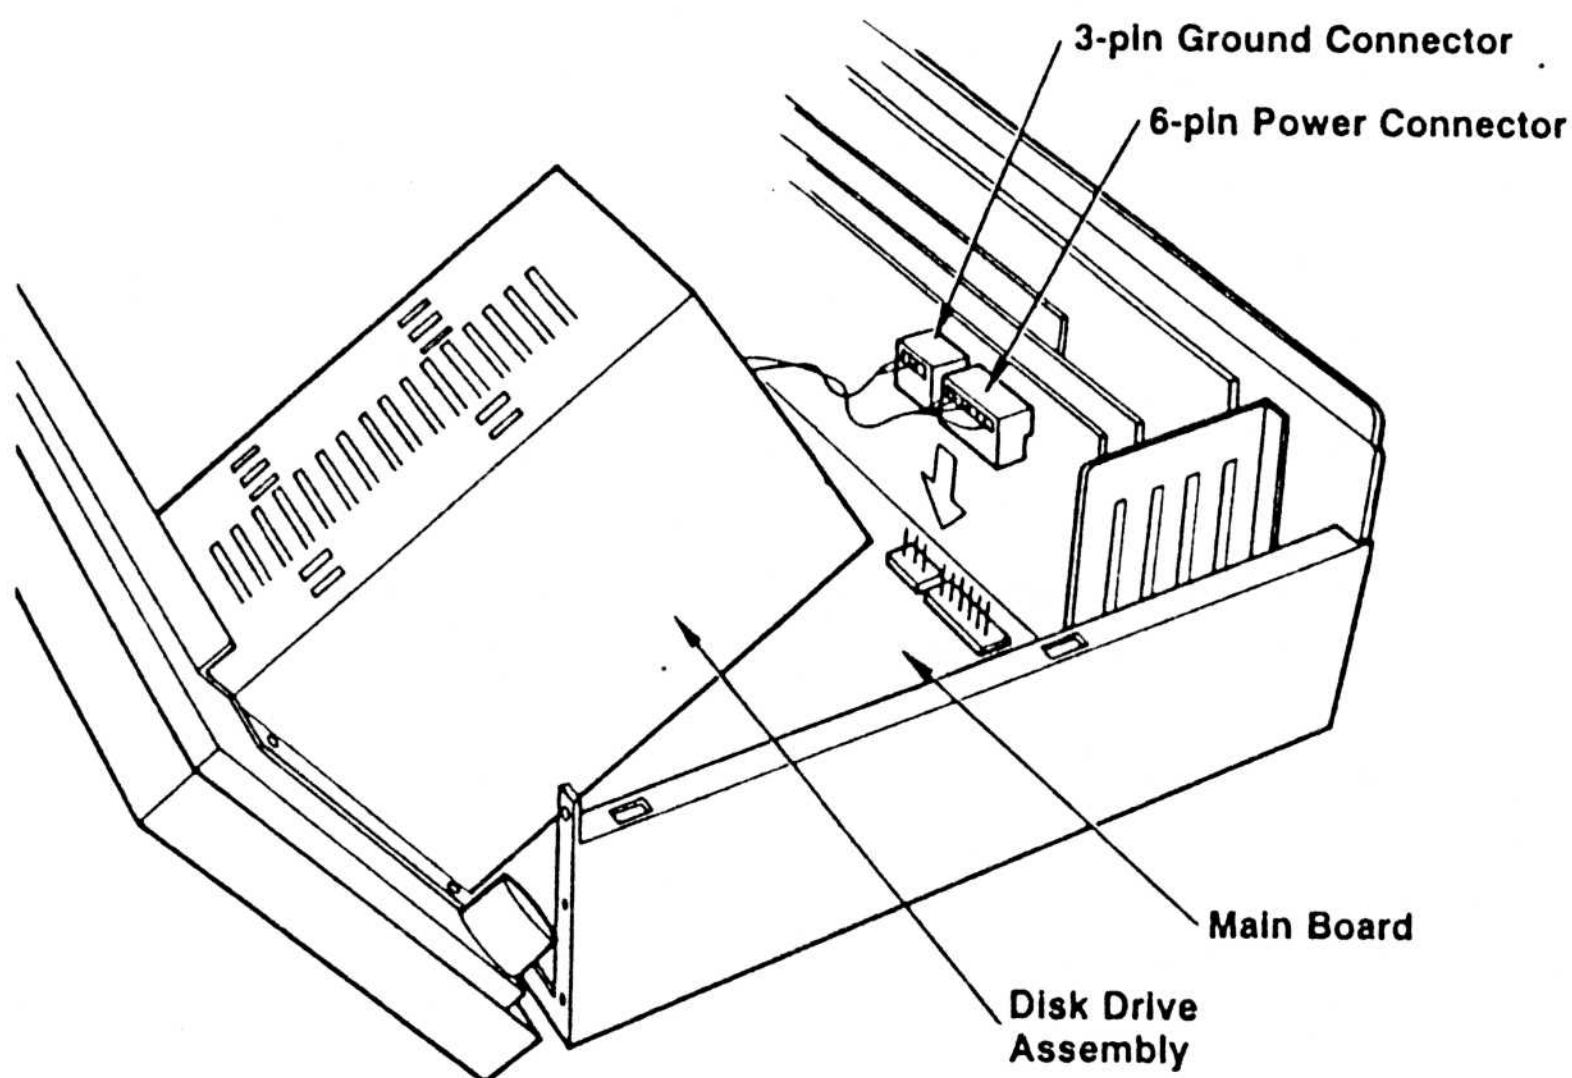

FIGURE 12: SPIRIT MAIN BOARD POWER CONNECTION
- STEP 14** With the front panel assembly tilted, disconnect the DC power and ground connectors from the main board. Refer to Figure 12.
- STEP 20 Connect the DC power and ground connectors to the main board. Refer to Figure 12.